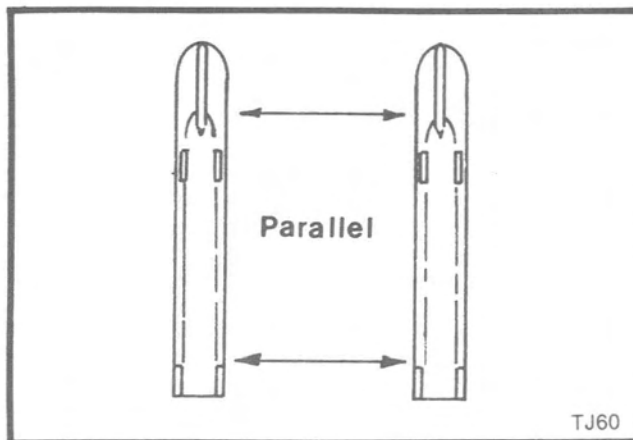

Figure 60
2. Position the skis straight forward and establish a parallel relationship, (Figure 60).